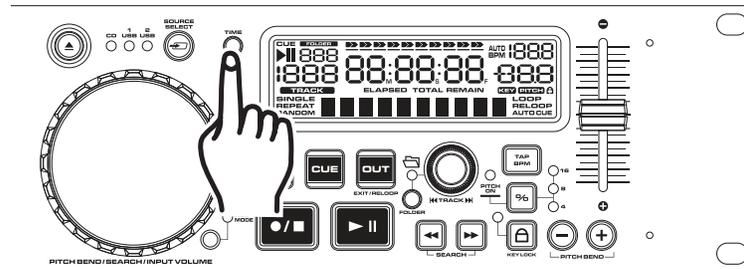

Figure 13
12. CHANGING THE TIME DISPLAY (29)/TIME BAR (30):
The time may be displayed in three different modes; Total Remain, Remain, and Elapsed. During normal playback, pressing the *TIME BUTTON* (5) as in figure 13, will change the time display information (29) in the LCD. The following is a break down of the time settings and their definitions:
- 1) TOTAL REMAIN (37) - This details the time in the *LCD* as the current CDs' total remaining time.
- 2) REMAIN (37) - This details the time in the *LCD* as the current tracks' remaining running time.